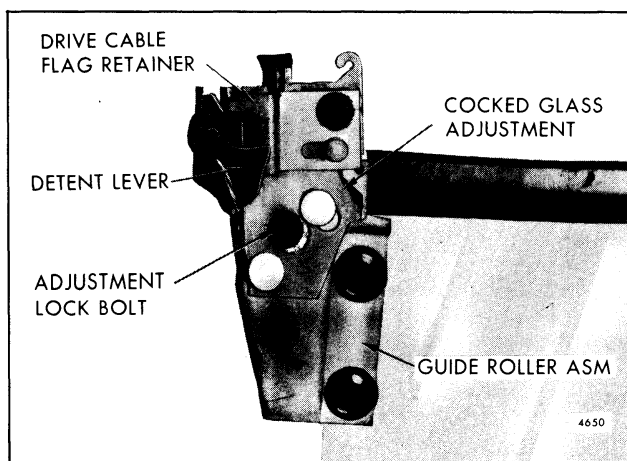

Fig. 7-93-Window Guide Roller Assembly - Upper Right
6. Remove drive cable flag retainer screw and move flag retainer inboard out of engagement with flag (Fig. 7-93).
A cocked window adjustment is controlled by loosening and rotating the right upper roller support in desired direction (Fig. 7-93).
7. Lower window to point where glass right upper roller detent lever engages either of two notches in right guide cam (Figs. 7-93 and 7-99).